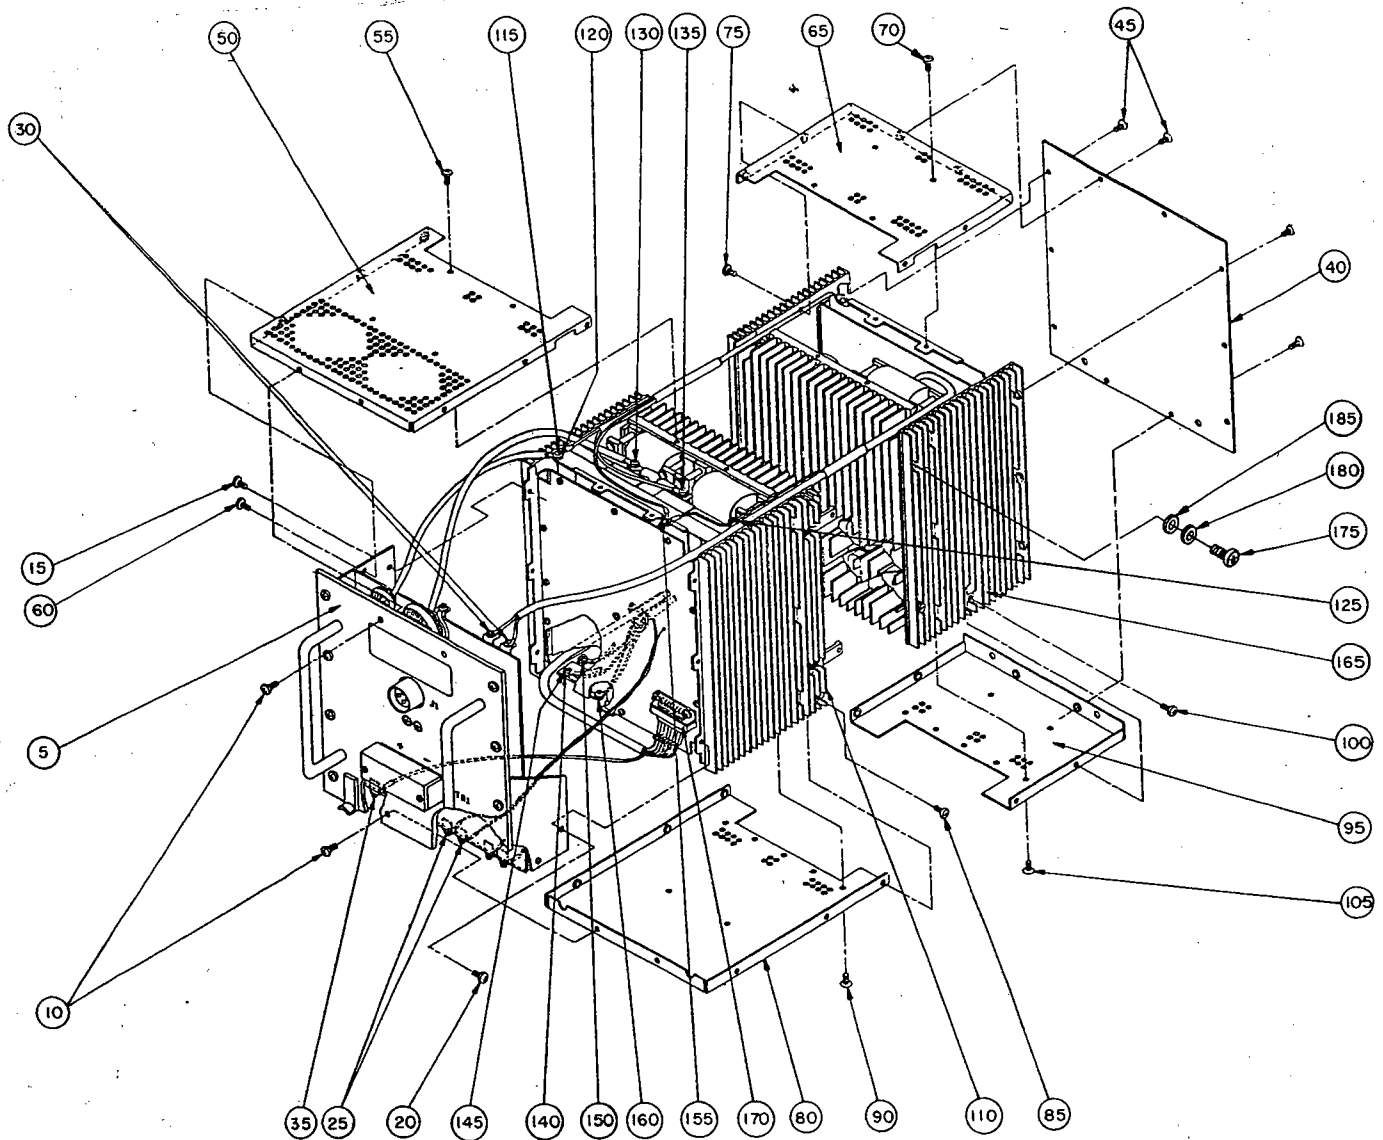

FIGURE 1
1. Remove ten (10) screws securing rear panel, item 45 on figure 1.
2. Carefully remove rear panel, item 40 on figure 1.
7. Carefully install the rear panel and replace the ten (10) screws, item 45 of figure 1 removed in step 1.